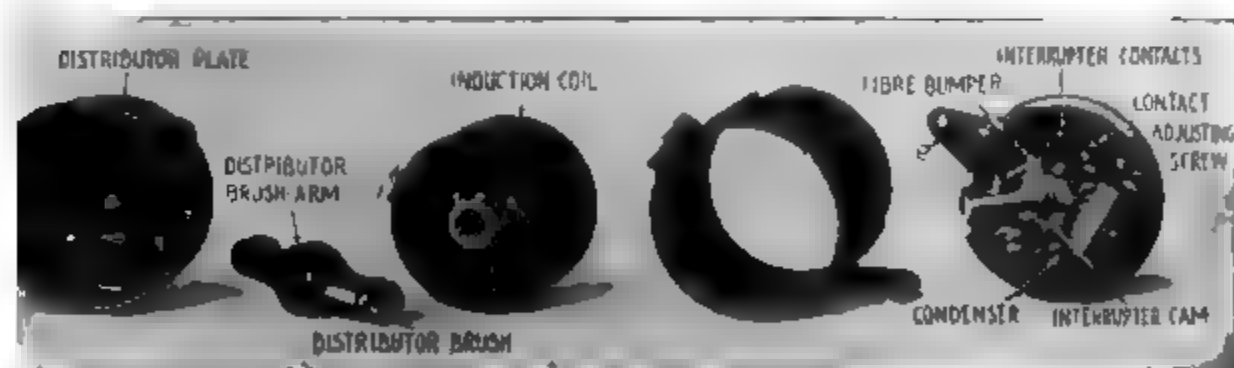

Fig. 117. Details of Westinghouse Ignition Unit
**Westinghouse Ignition Unit.** This is a combination of all the essentials of magnetic ignition, i.e., the interrupter, distributor, induction coil, and condenser, brought together in a compact unit adapted for mounting either on the lighting generator itself or directly on the engine. It supersedes the type of ignition and lighting generator previously described and which now will be found only on cars of earlier models. As will be noted in Fig. 117, its components are the counterparts of the same essentials on the magneto, except that the interrupter cam has four lobes, so that no further description is necessary.